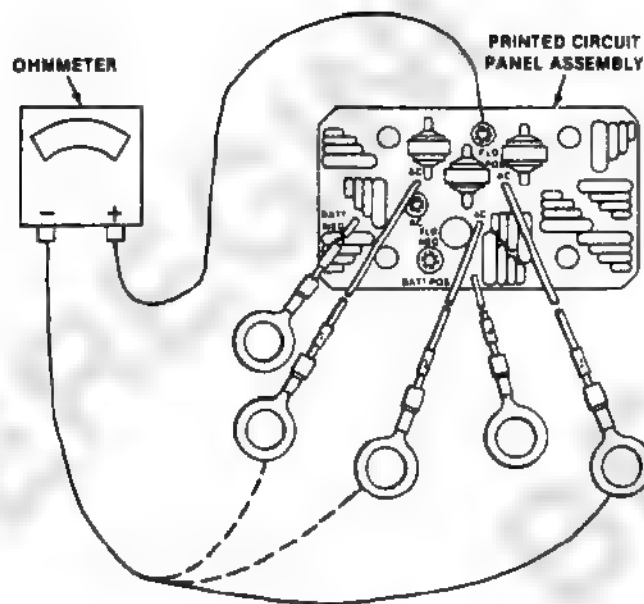

Figure 2-7. Shorted Printed Circuit Panel Assembly Diode Check.
Step 9. Check for shorted diodes on printed circuit panel assembly. Connect ohmmeter to each of the three long black leads according to figure 2-7.